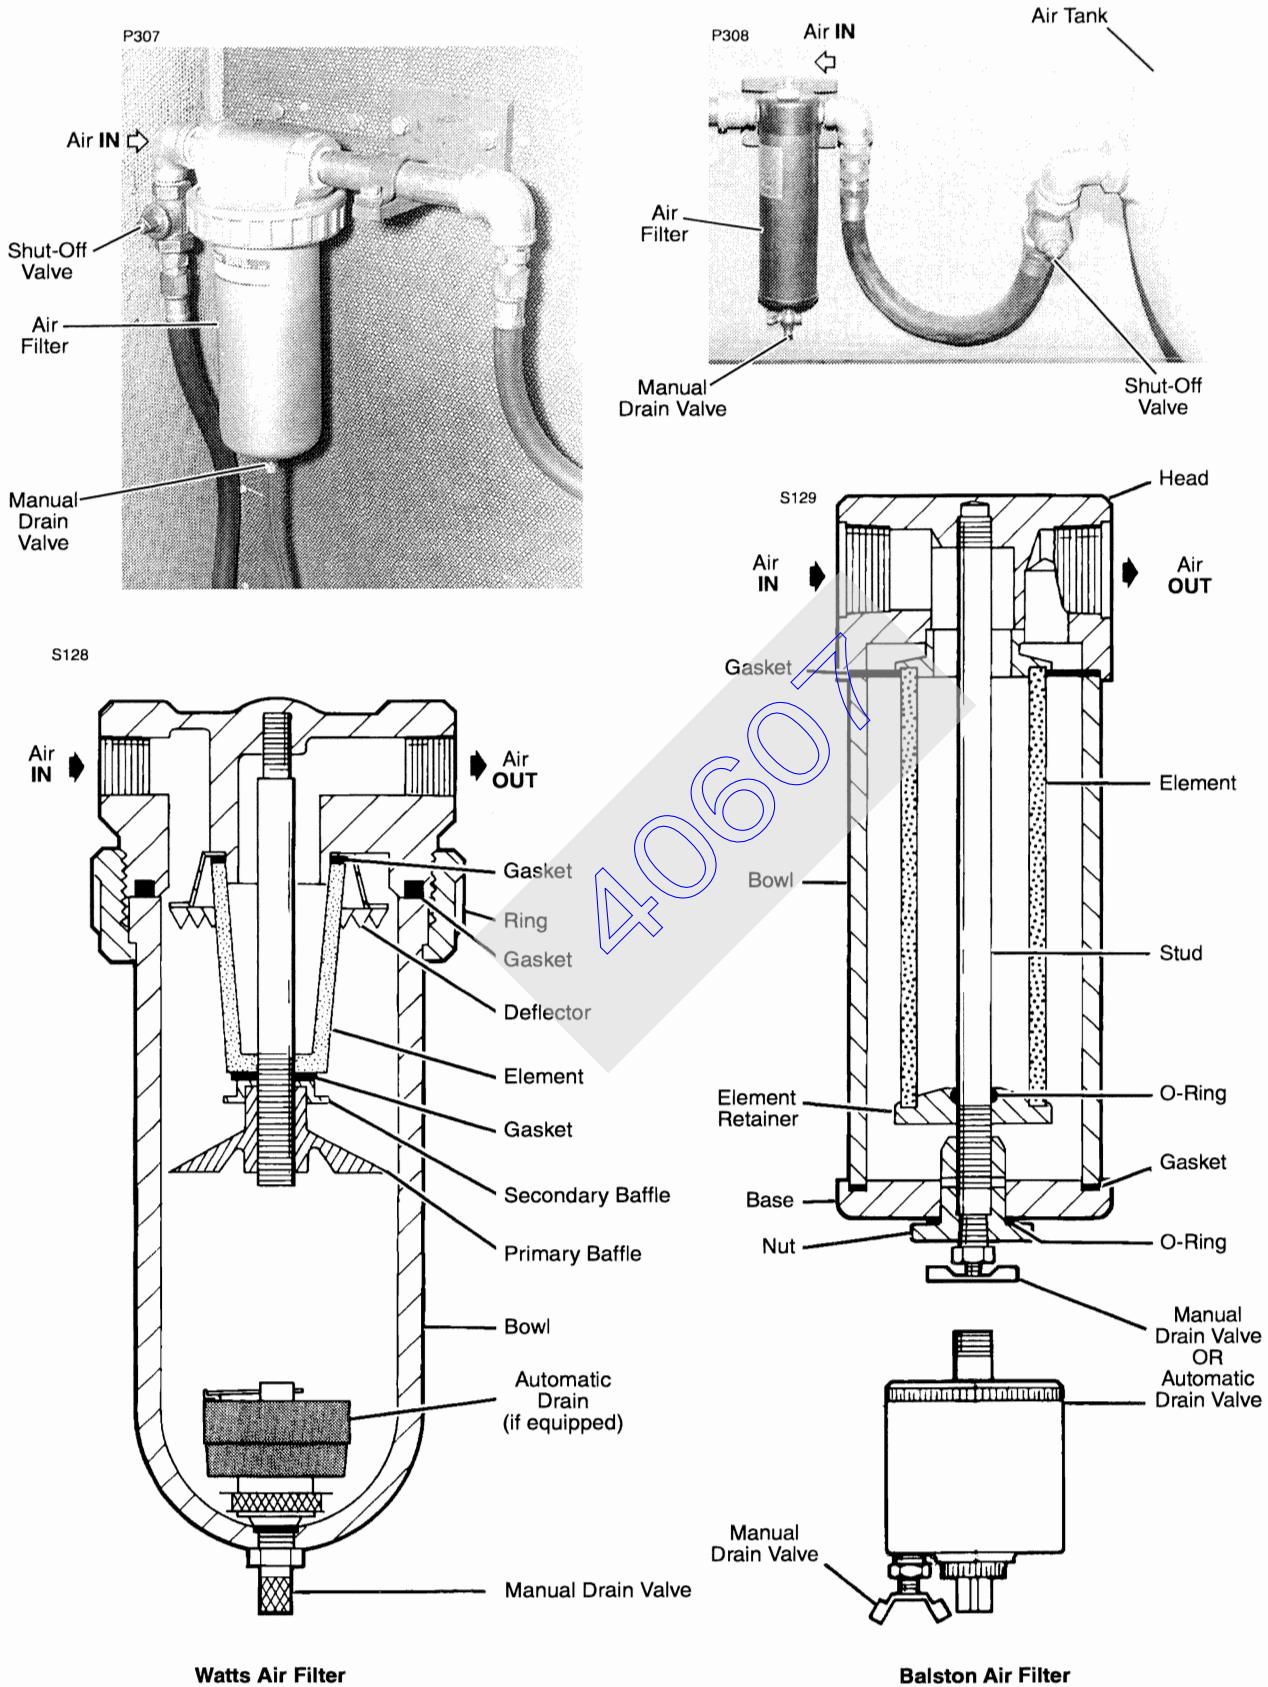

FIGURE 1
2. Refer to Figure 1 and disassemble the filter.
6. Refer to Figure 1 and reassemble the filter. Tighten all threaded parts securely.
Normally Closed (Figure 1)